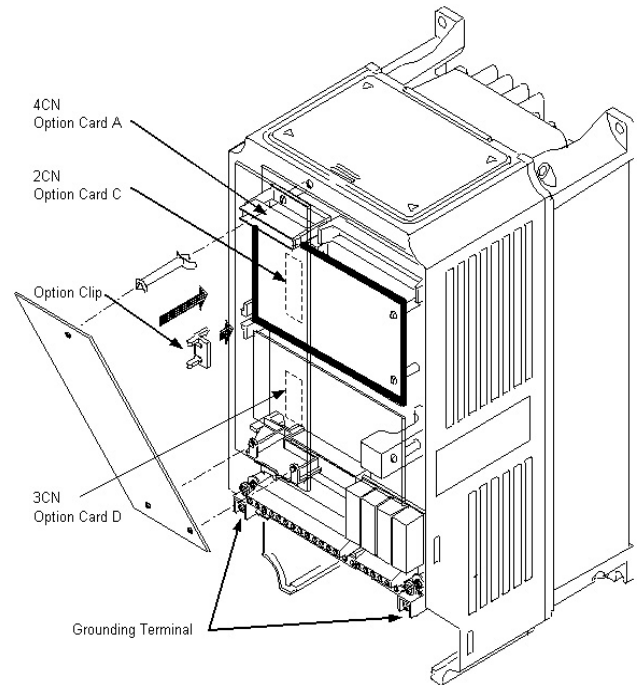

Figure 1. AI-040 Option Card installation
5. **Option Card Installation:** See Figure 1. Position the option card above the control board's 2CN connector and gently press the card into place.